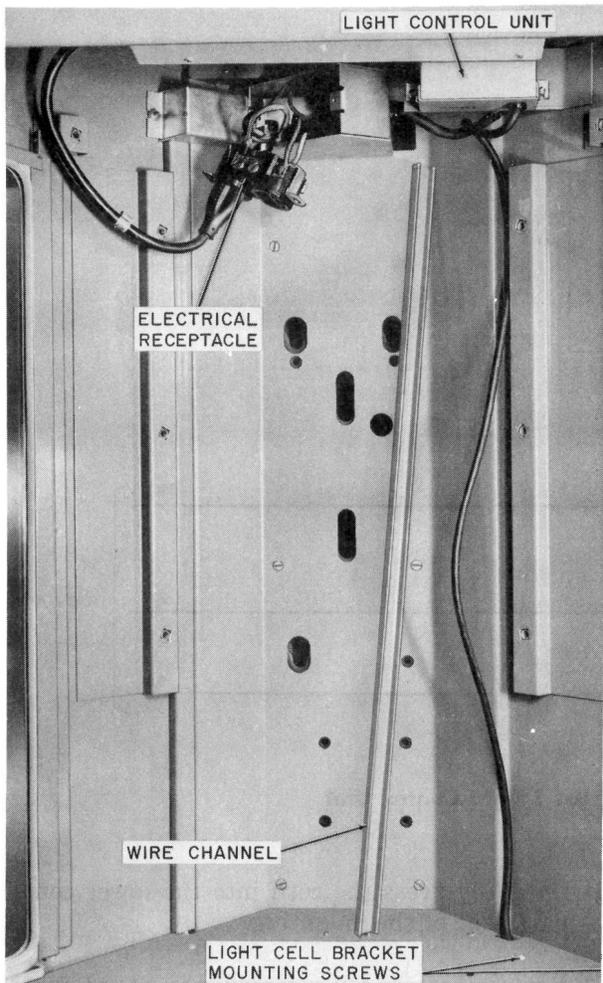
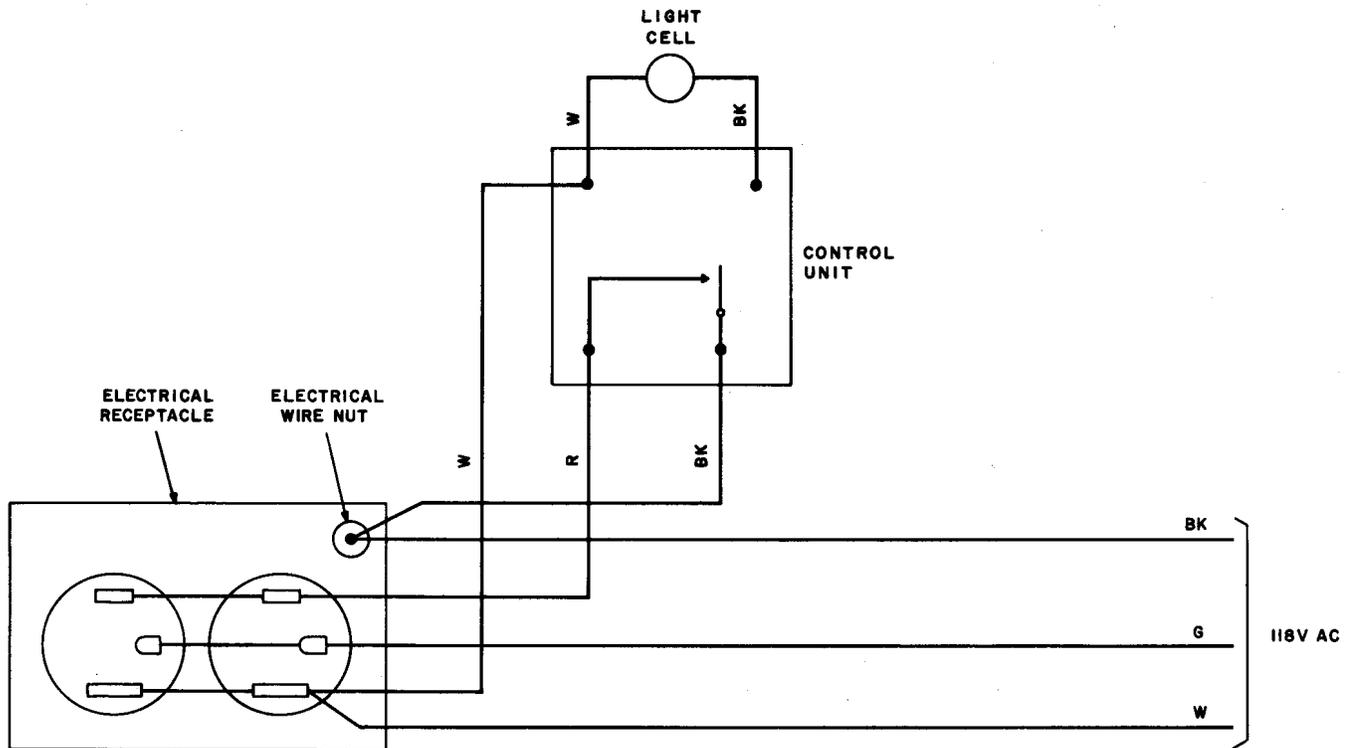
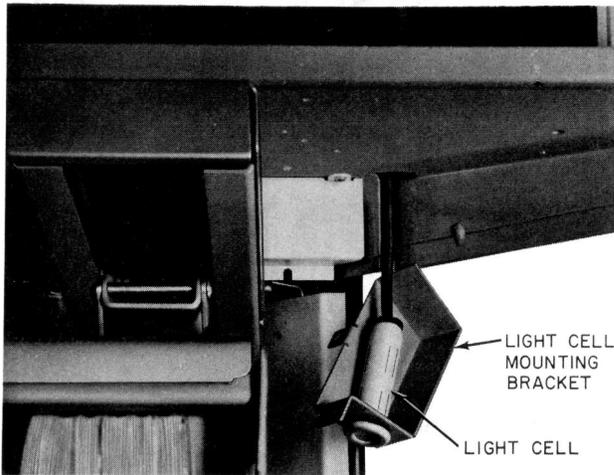
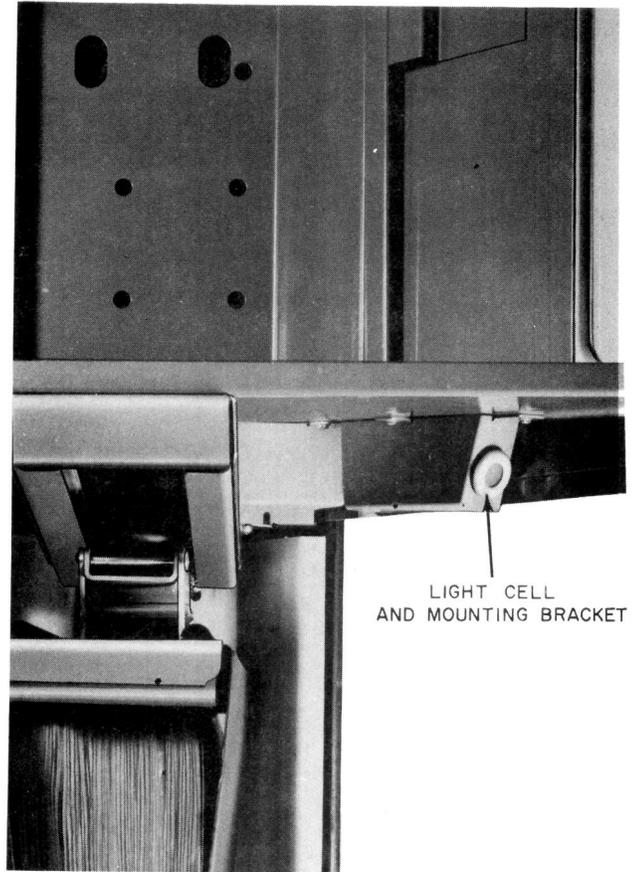

Fig. 23—Installation of List 3 Light Control Unit
Fig. 24—Wiring Diagram of KS-19261, List 3 Light Control Unit
Fig. 25—Installation of Light Cell in Mounting Bracket
Fig. 26—Installation of Mounting Bracket on KS-19426 Mounting
- (1) Using KS-19192, List 1 wrench, remove four tamperproof screws, retainer bar, and the light shield from housing. Refer to Section 508-451-100 for detailed procedures.
- (2) Remove coin telephone from housing.
- (3) Remove wire channel (Fig. 23) from right side of housing.
- (4) Install control unit in the upper portion of the housing on the bracket provided.
- (5) Connect control unit wires to electrical receptacle as shown in Fig. 24.
- (6) Run the light cell cable down the channel to the underside of the housing.
- (7) Install the wire channel, removed in Step (3), in its original position.
- (8) Install the light cell in the light cell mounting bracket as shown in Fig. 25.
- (9) Secure the bracket to the bottom of the housing as shown in Fig. 26.
- (10) Install the coin telephone.
- (11) Install light shield as follows.
- (12) Cover light cell to exclude light. Lamps should light within two minutes. If lamps do not light proceed as follows:
- (a) Remove electric wire nut (Fig. 24) from black wires. Connect black wire from ac
- (1) Install light control in first mounting as directed in paragraph 3.09.
- (2) Connect wires of control unit to electrical receptacle of prime mounting as shown in Fig. 23.